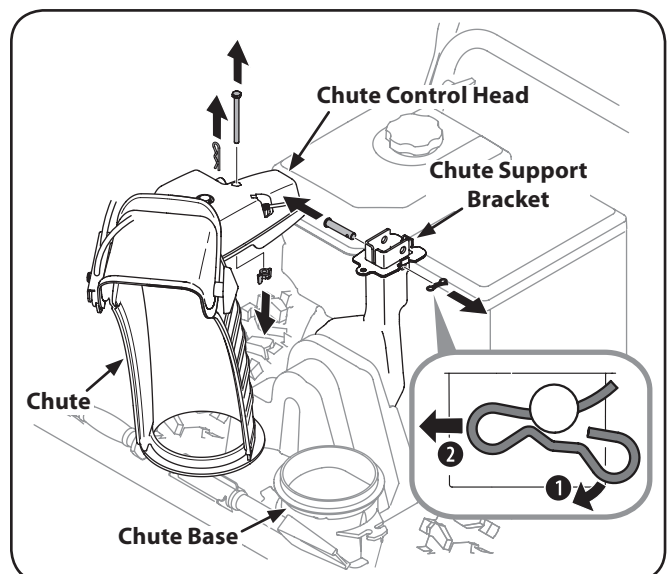

Figure 3-3
1. Remove hairpin clip, wing nut and hex screw from chute control head and clevis pin and bow-tie cotter pin from chute support bracket. See Figure 3-3.
8. Finish securing chute control head to chute support bracket with wing nut, clevis pin, and bow-tie cotter pin removed in step 1. See Figure 3-3.